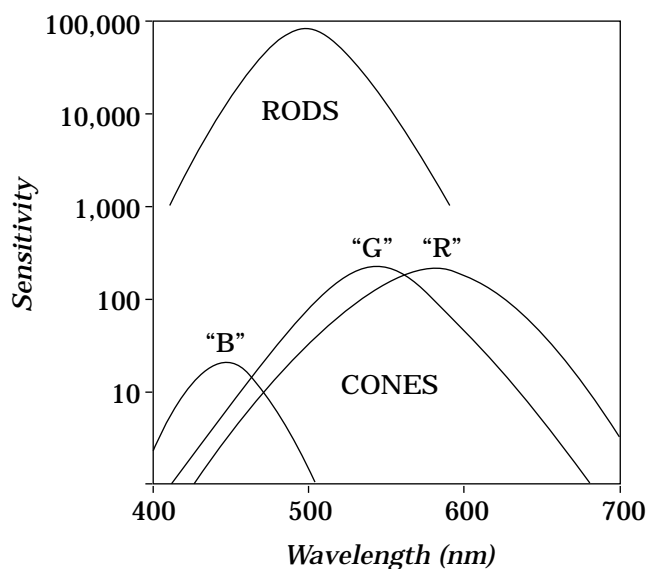

Figure 3. Sensitivity of cones and rods of the human eye.
1. **Vision.** In the retina at the back of the eye, color is detected by three sets of cones at moderate to high light intensity. The cones have maximum sensitivity to different colors as shown in Figure 3, where "B," "G," and "R" are the blue, green, and red sensitive cones. At low light levels, light is detected by rods, which do not distinguish color, but do have much higher sensitivity as shown in Figure 3. The photochemical reaction thought to predominate at higher intensity levels is shown schematically in Figure 4, where rhodopsin is a condensation product between opsin, a large molecule of unknown structure, and 11-*cis*-retinal. Absorption of a photon into the so-called π^* level of the retinal allows rotation at the 11-position to the *trans* form shown on the right of Figure 4, providing a nerve impulse to the brain. A second photon can reverse the process, *etc.* The actual process involves at least two intermediates, and the process for dim light is even more complicated; however, the *cis-trans* conversion is involved in all cases. The cones are thought to have at least three different opsins, which provide the different energy absorption profiles necessary for color detection (see also *Organic Chemistry* and *Chemistry in Medicine* modules). Recently, workers at Brandeis University and Stanford University succeeded in isolating the pigments of human color vision by chemically synthesizing the genes for the pigments and expressing the genes in tissue culture. The opsin (protein) portion of these pigments is covalently linked to the chromophore, 11-*cis*-retinal through a lysine (an amino acid) side chain. Substitution of different amino acids at critical positions on the opsin chain can produce different absorption maxima and hence, different perceived colors. For example, substitution of an alanine for a serine at position 180 on the opsin results in a subtle but detectable difference in color vision tests. The consequences? Everyone does not see the same color! (See Borman, 1992, in *References*.)